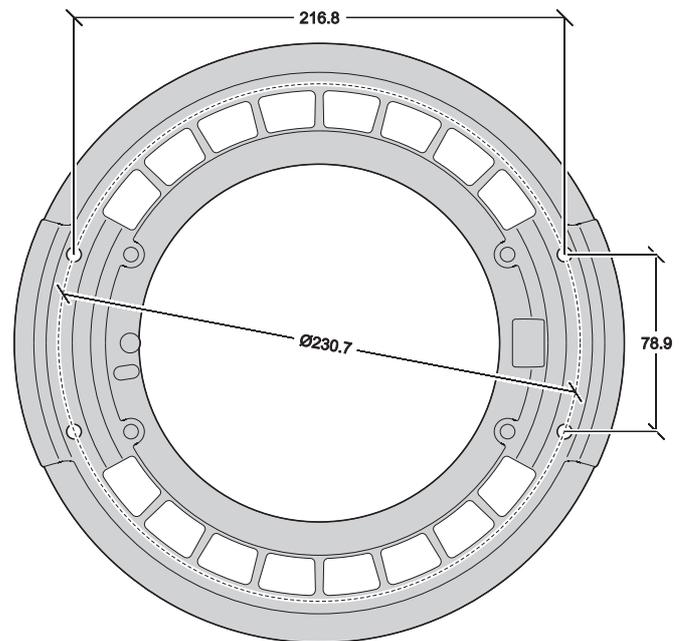

Figure 15: Dimensions for followspot handles
Warning! Screws used to fasten any item to the rear of the head may only be fastened into the holes (arrowed in Figure 15) provided in the rear head cover. Do not attempt to fasten any item to the rear of the head by any other method. Screws must not protrude more than 15 mm (0.6 inches) into the rear head cover, or there is a danger that they may damage electrical insulation inside the head and create a risk of serious or lethal electric shock for the operator.
- Four holes (arrowed in Figure 15) are provided in the fixture's rear head cover for fastening followspot handle mounting brackets. Use regular M6 machine screws for attachment but ensure that screws are the correct length: the portion of the screw that goes into the rear head cover must have a length of between 12 mm (0.47 in.) and 15 mm (0.6 in.).
Besides being constructed so that they will not foul the yoke at any point in the tilt range, mounting brackets must match the dimensions shown in Figure 15.
Dimensions in Figure 15 are shown in millimeters: